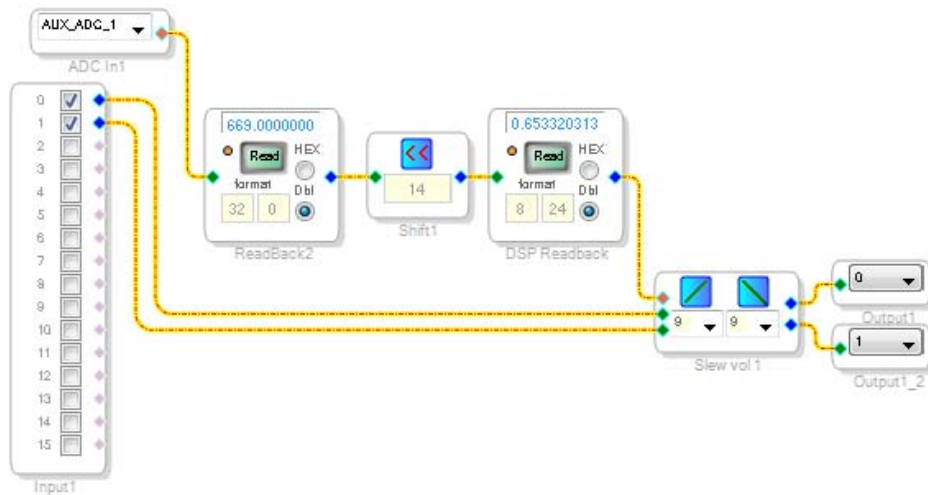

Figure 58. Completed Signal Flow with DSP Readback
- The **Shift1** block performs a bitwise shift to the right or to the left. Click the blue button in the **Shift1** block in Figure 58 to select the direction of the shift. Ensure the block is performing a left shift for a multiplication function. The **Shift1** block appears as shown in Figure 58.
- To set the number of bits the **ADC In1** block is shifted by to 14, click and type in the yellow text box in the **Shift1** block in Figure 58.
- For one of the **DSP Readback** blocks, change the numeric format used to decode and display the signal value to 32.0 by inputting 32 in the left format box and then pressing the **Tab** key. **SigmaDSP** uses a numeric format of 8.24 for audio signals. See Figure 58 for more details.
- Wire the blocks together as shown in Figure 58. The position of blocks in the diagram does not matter.
The schematic (see Figure 58) shows audio from input Channel 0 and input Channel 1 connected to the input of a **Slew vol 1** block. The volume is controlled by the **AUX_ADC_1** value of the **ADC In1** block, which is controlled by the left potentiometer, R1.